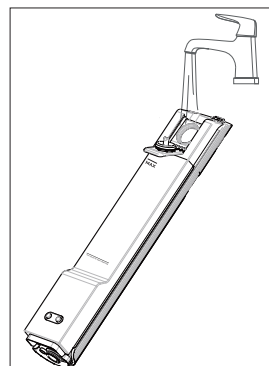

Fig. 7 – Filling the water tank
- ▶ Fill the fresh water tank with clean tap water. Do not use hot or boiling water to fill the fresh water tank. (see Fig. 7)